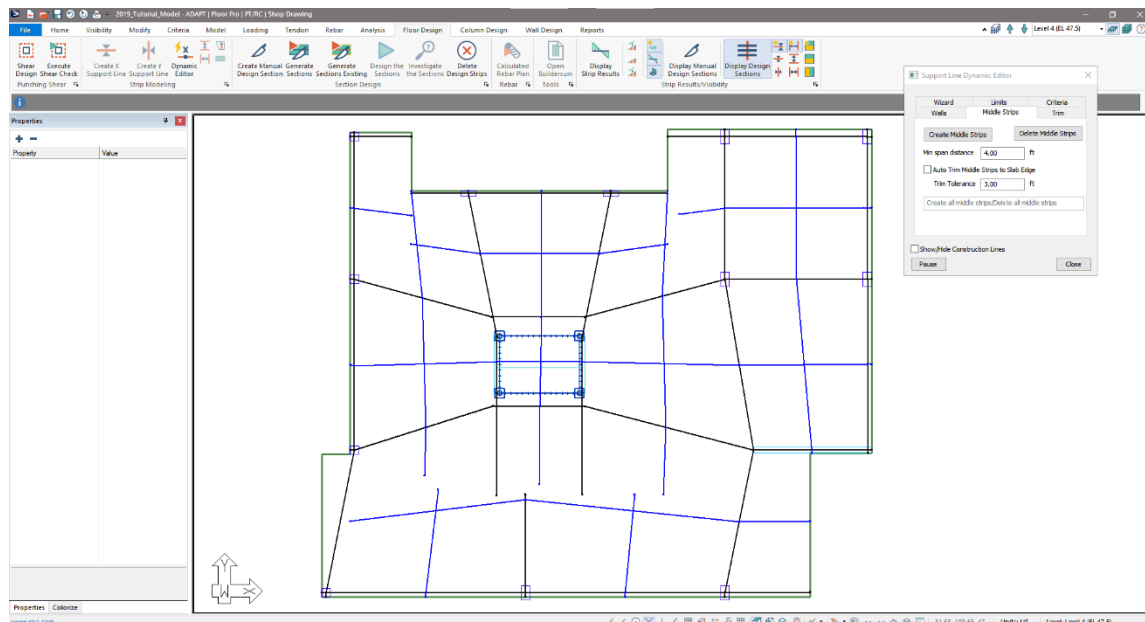

Figure 10-13
- Click on the *Create Middle Strips* button to create the middle strips support lines. The middle strip support lines initially will be shown in blue as seen in **FIGURE 10-13**.